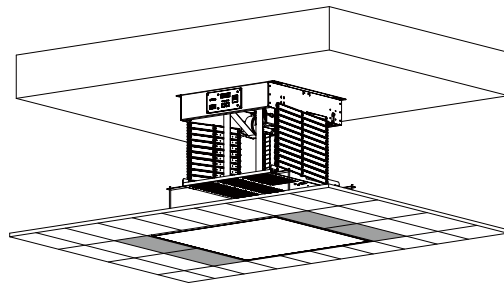

Figure 20
- (Figure 20) Trim the ceiling plate to the appropriate size and assemble it back into the ceiling grid. The suggested distance of ceiling plate to the lift's decorative ceiling plate is about 5mm. Please use the same way to adjust the ceiling plate in case the height of decorative plate is not the same as the ceiling plate around.